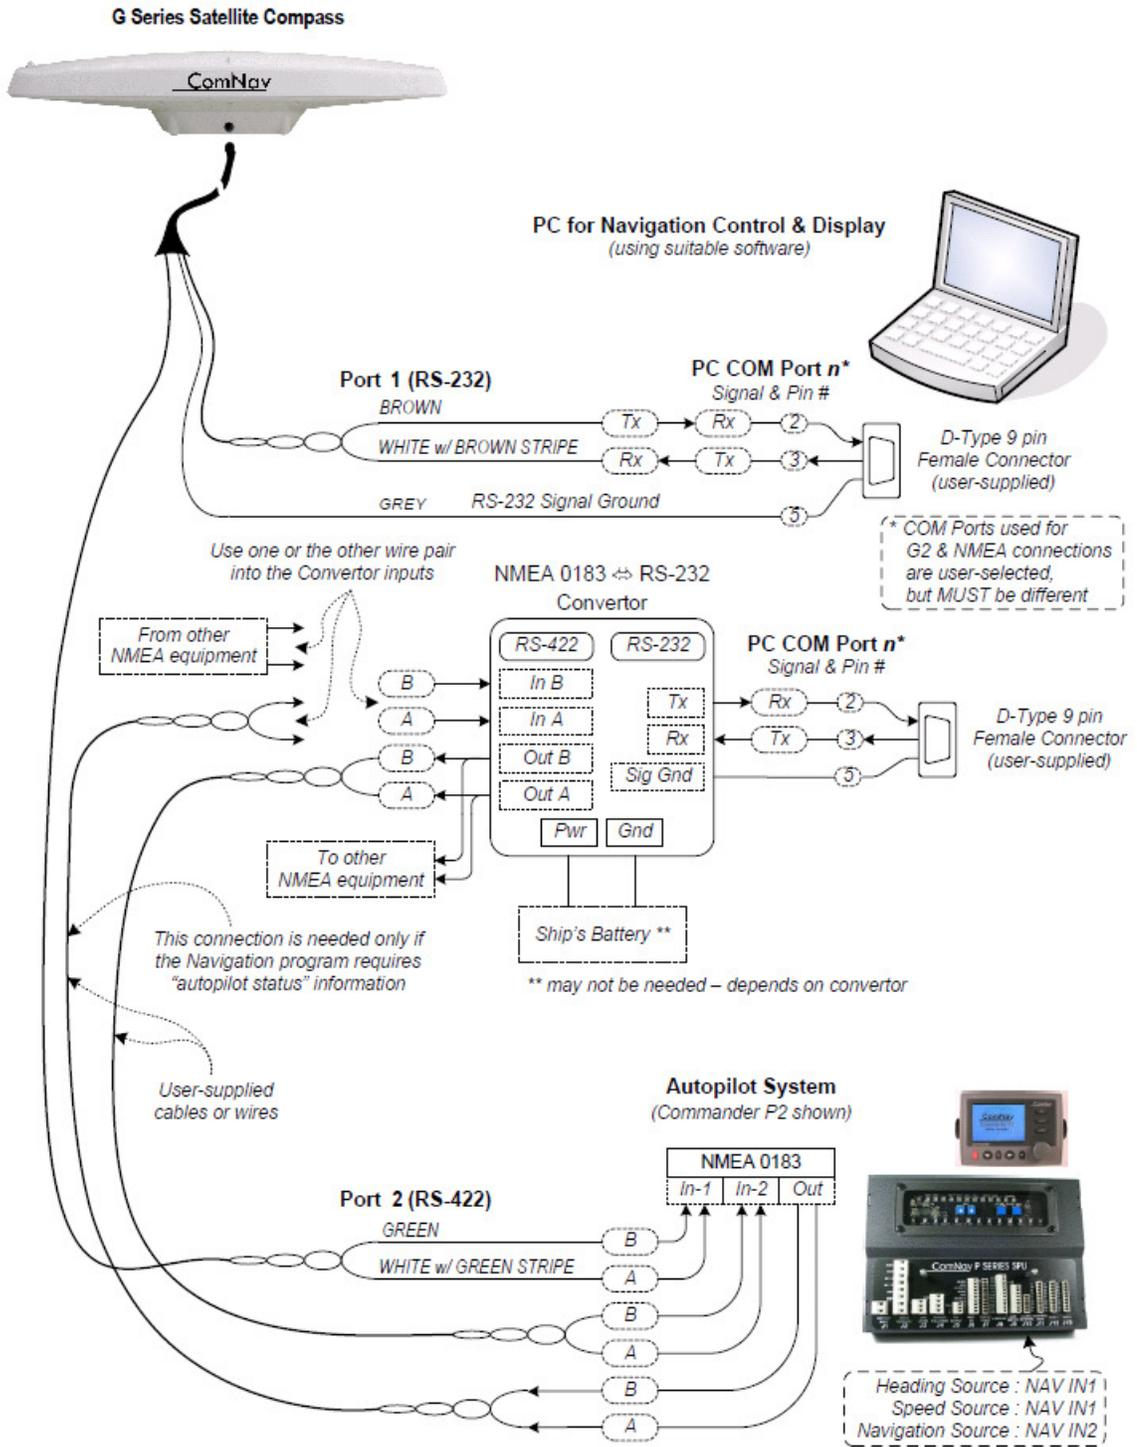

Figure 17 – Typical wiring with a PC based Navigation Program
Figure 17 shows the typical connections when using a PC, instead of a Chartplotter or some other type of NMEA Navigation equipment, to perform “Navigation display &/or control” functions – viewing the vessel’s position on a chart, setting waypoints and so on. This wiring scheme uses the G2’s Port 1 RS-232 output (and input, if the PC is also going to be used to control the G2), and the Port 2 RS-422 output.
⇒ Since very few PCs have built-in RS-422 ports, an RS-232 ⇔ RS-422 Converter will usually also be needed (as shown in Figure 17).
- *Wire the G2's Port A RS-232 Tx signal to the PC COM port's Rx signal, and wire the RS-232 Signal Ground, both as shown in Figure 17.*